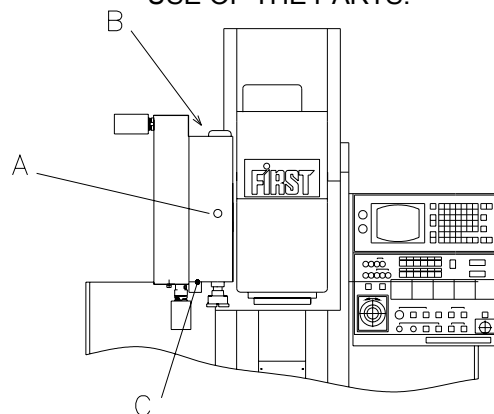

FIG. 7.4 ATC GEAR OIL
CHECK THE GEAR OIL FROM GAUGE (A) REFILL FROM (B) AND FLOW THE OIL OUT FROM (C) (FIG.7.4)